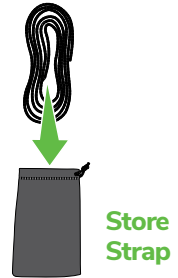

Figure 3
Step 3. Roll up excess strap and store in the pocket provided on the cover (Figure 3).